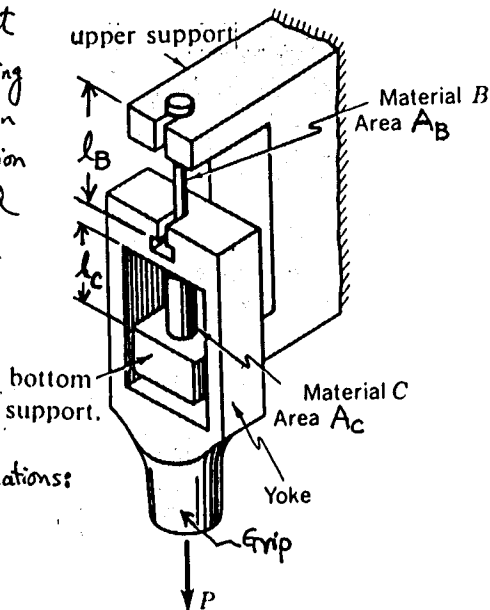

Fig. 1 Grip Assemble
1. Shock proof and loading alignment are very important in the design of grip assemble of the Creep testing machine. A grip assemble is designed as shown in the Fig. 1. A rod of material B is used in tension between the Yoke and the upper support, and a rod of material C is used in compression between the Yoke and the bottom support. Determine the Nonlinear Stiffness behavior of grip assemble (i.e. Load  $P$  vs Deflection  $\delta$  of Yoke) in terms of Area, Length and Material constant  $E$  of material B & C.